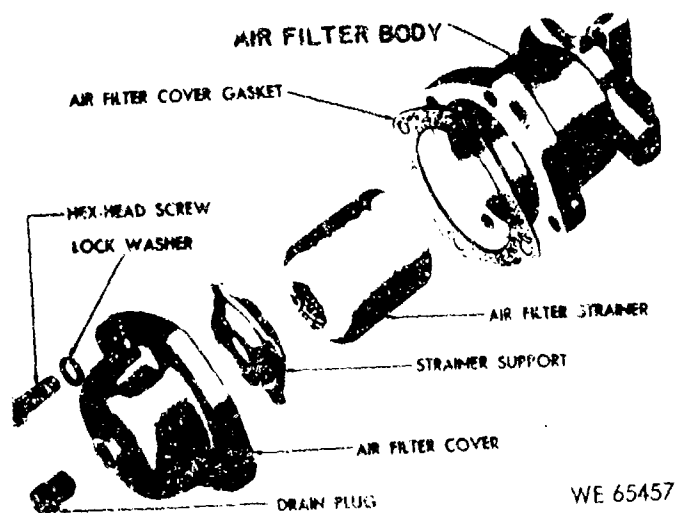

Figure 5-4. Air filter—exploded view.
*d. Air filters.* The air filters (fig 5-4) are mounted on the trails and connected in the service and emergency air lines to filter water and dirt from the air before it enters the emergency relay valve. Drain plugs in the bottom of the filters permit draining accumulated water and dirt.